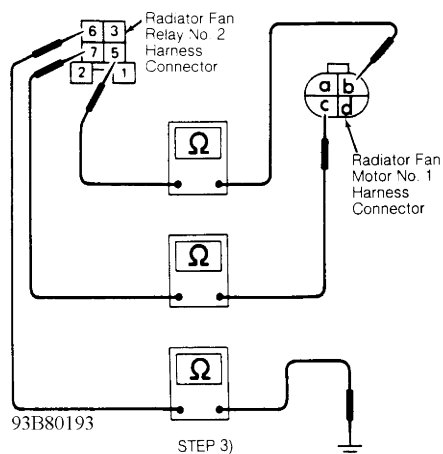

Fig. 57: Testing Radiator Fan High Speed Circuit (Step 3, NX & Sentra 2.0L A/T)
radiator fan motor No. 1 harness connector terminal "b" (Brown wire) and radiator fan relay No. 2 harness connector terminal No. 5 (Brown wire). Check continuity between radiator fan motor No. 1 harness connector terminal "c" (Red wire) and radiator fan relay No. 2 harness connector No. 7 (Red wire). Check continuity between radiator fan relay No. 2 harness connector terminal No. 6 (Black wire) and ground. See Figs. 57 and 58.
4) Check continuity between radiator fan motor No. 2 harness connector terminal "f" (Brown/White wire) and radiator fan relay No. 3 harness connector terminal No. 5 (Brown/White wire). Check continuity between radiator fan motor No. 2 harness connector terminal "g" (Red wire) and radiator fan relay No. 3 harness connector No. 7 (Red wire). Check continuity between radiator fan relay No. 3 harness connector terminal No. 6 (Black wire) and ground. See Figs. 57 and 58. Continuity should exist in all checks. If continuity exists in all checks, go to next step. If continuity does not exist in any check, repair open in appropriate wire or connector.